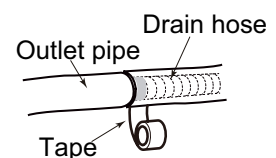

Fig.9
(2) Bind the joint with tape. (As show in Fig.9)